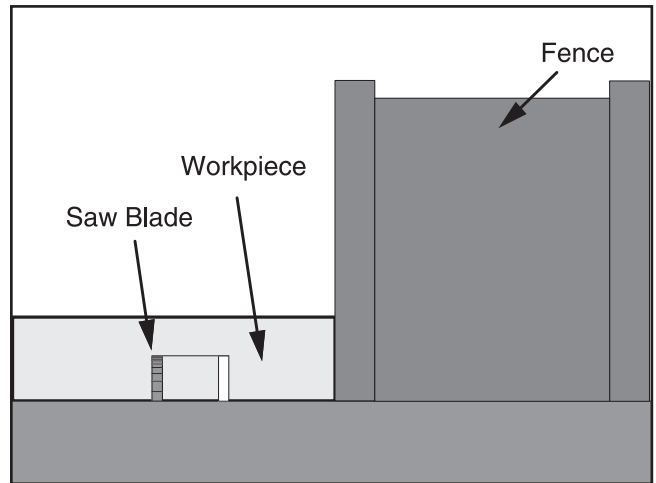

Figure 50. Single-blade dado second cut.
6. Re-adjust the fence so the blade is aligned with the other edge of the intended dado channel (**Figure 50**). **Note:** Be sure to keep the cuts within your marks; otherwise, the dado will be too big.